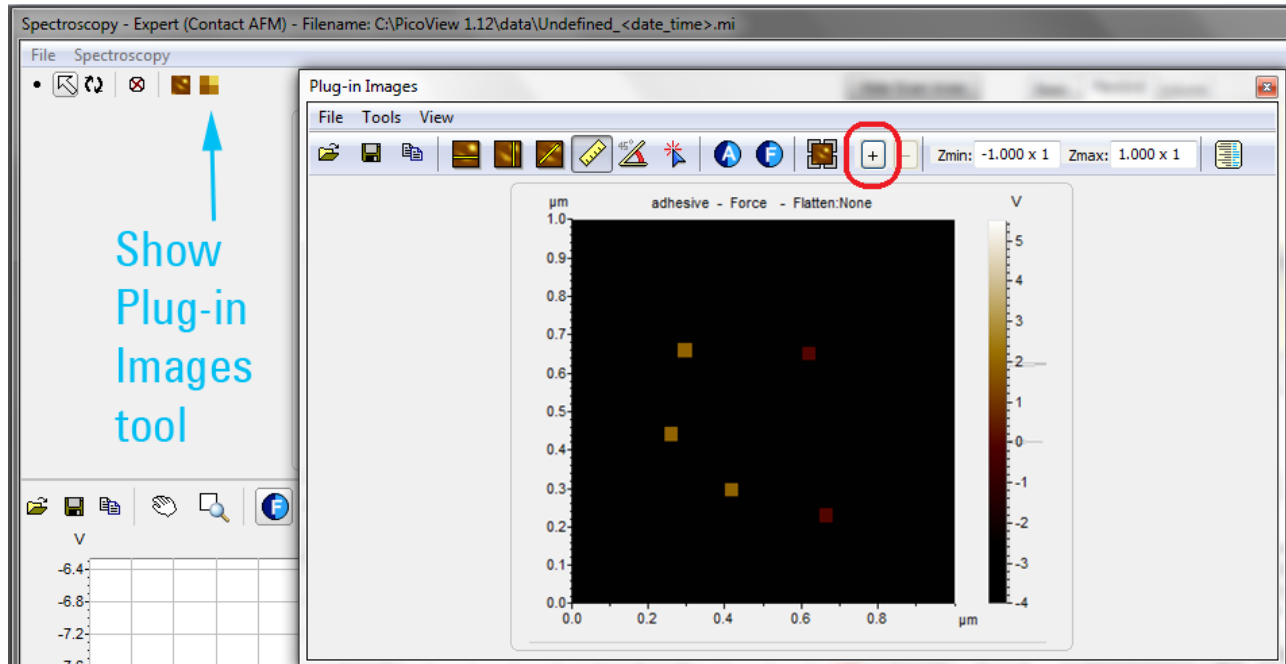

Figure 114 Plug-in Images window
- 2 In the Plug-in Images window, click the “+” button to add to add up to eight windows (Figure 114).